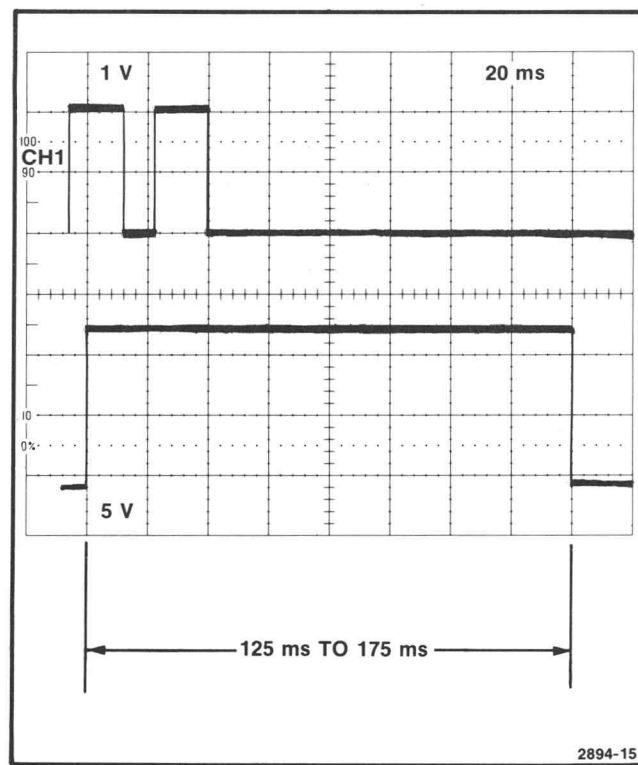

Fig. 4-14. QRS inhibit duration waveform.
g. **CHECK**—Duration of positive portion of CH 2 signal is 125 to 175 ms (see Fig. 4-14).